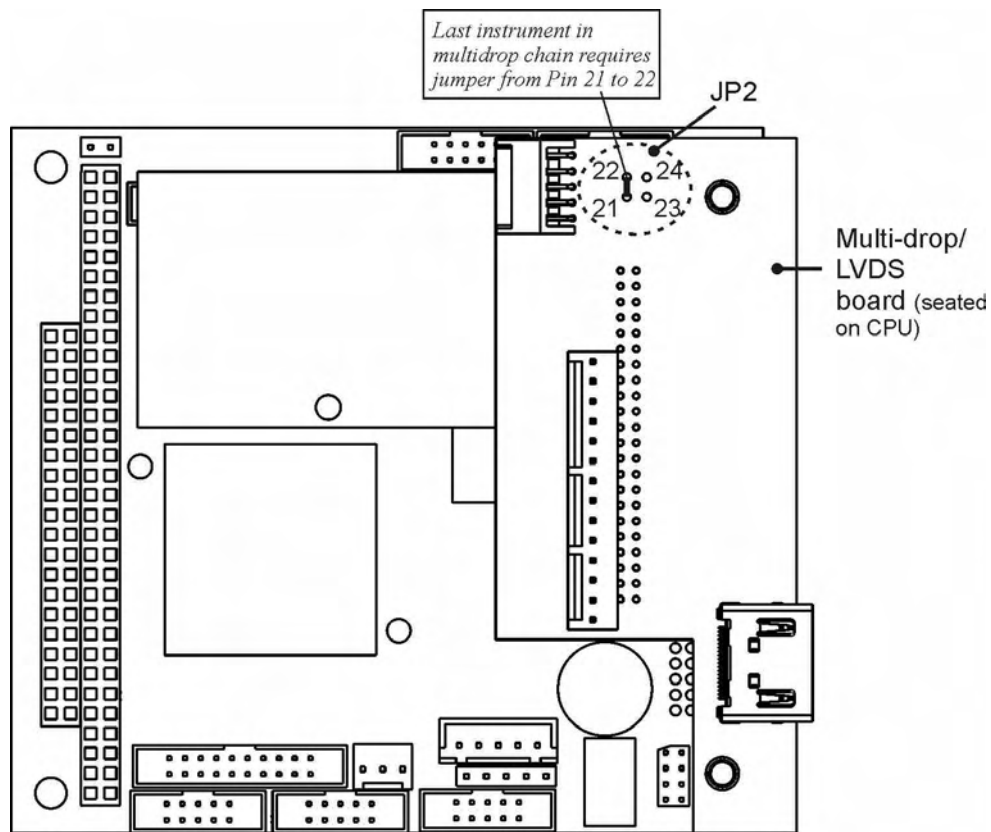

Figure 8-3: Multidrop/LVDS PCA Seated on CPU
2. On the multidrop PCA's JP2 connector, use the shunt provided to jumper Pins 21 ↔ 22 as indicated in Figure 8-3.